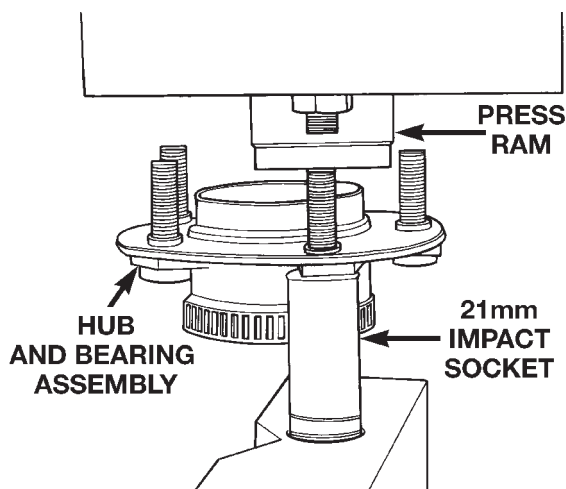

Fig. 37 Wheel Stud Removal
(1) Position the hub and bearing assembly under a hydraulic press ram, supported by a 21 mm. deep well impact socket under the stud to be replaced (Fig. 37).